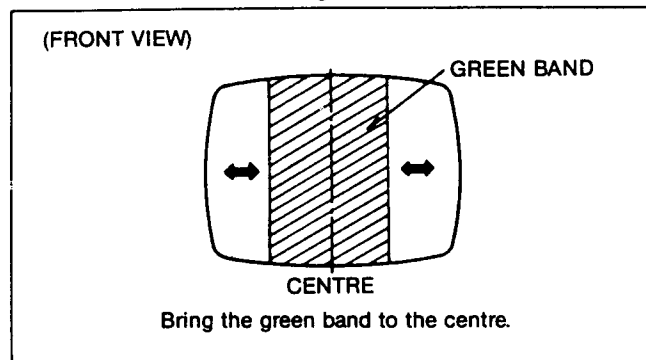

Fig. B-3
4. Turn the GREEN CUT-OFF VR to maximum and the RED and BLUE CUT-OFF VRs to minimum. Then adjust the SCREEN VR so that the green band can be seen best (Fig. B-3)